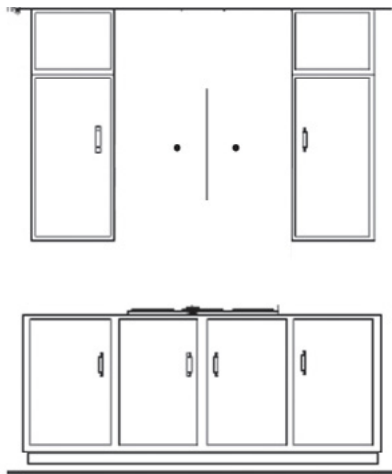

Figure 1
1. Find the center of the wall where you are installing the hood. Make sure there is sufficient bracing to hold the weight of the hood. Mark your center line and measure out from the center to find your two mounting points. Make sure your mounting points are level when you mark them. It is recommended to install the hood directly into wood supports. *Figure 1*
2. Mark the mounting points and install the two mounting screws provided leaving the heads out ¼" to mount the hood. *Figure 1*